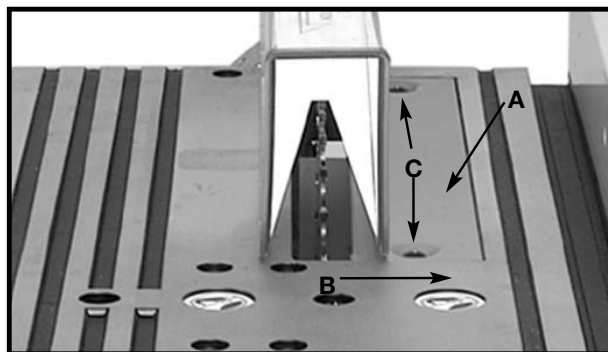

Fig. 36
1. Make sure that the table insert (A) Fig. 36, is flush with, or slightly below, the surface of the table (B).
2. If the table insert is above the surface of the table, tighten the two table insert screws (C) Fig. 36 to lower the insert.